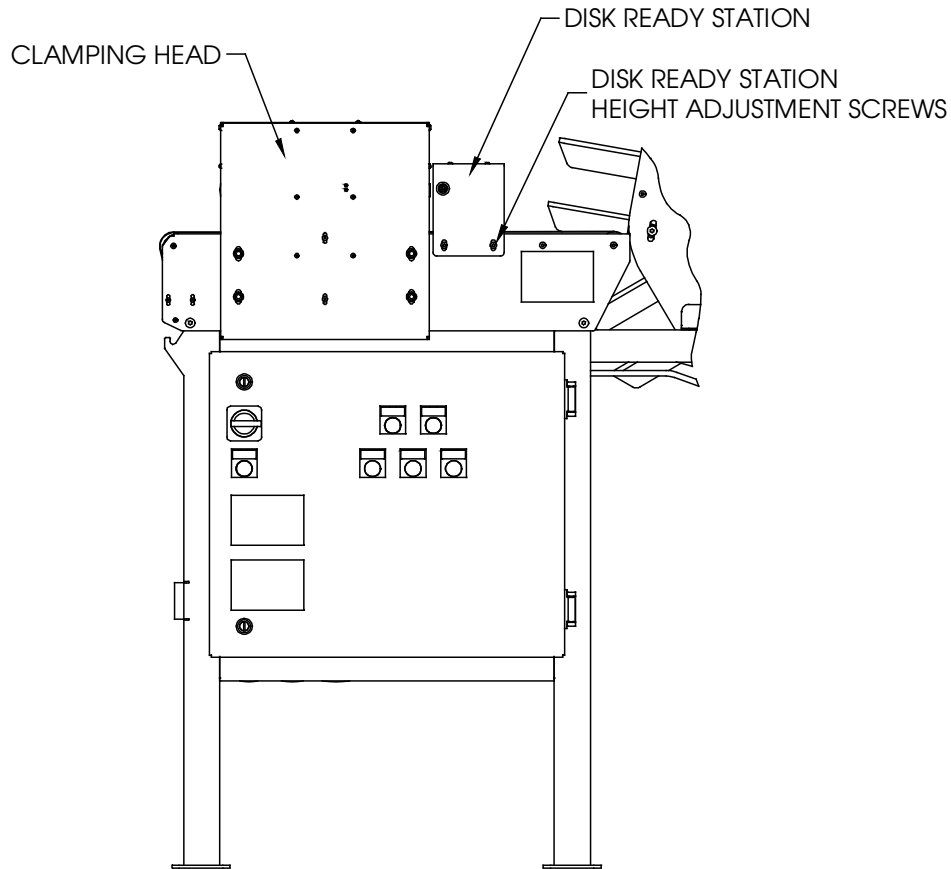

Figure 10. Disk Ready Station Height adjustment
2. If the upper or lower Guide Brackets are not both aligned with the straight portion of the shaft, loosen but do not remove the (4) four Disk Ready Station Height Adjustment Screws as shown in Figure 10.